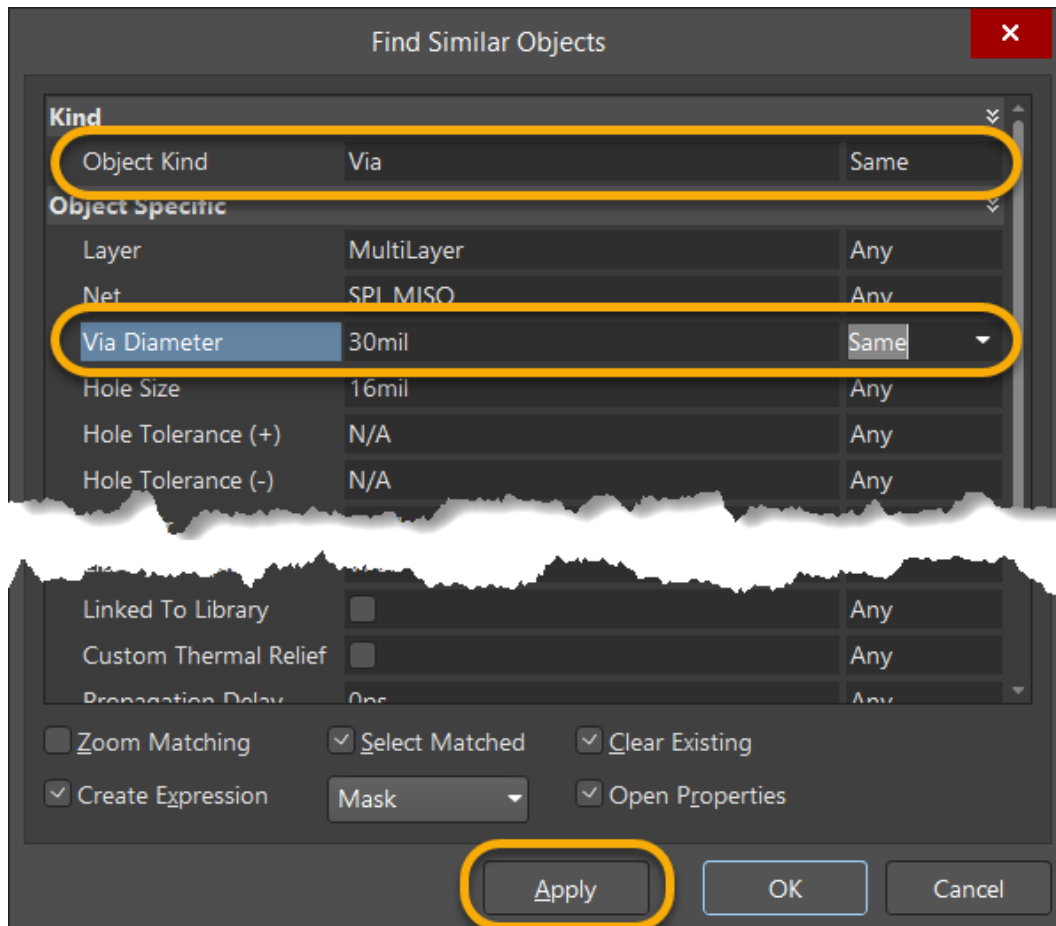

Figure 10. Find Similar Objects dialog to target specific Vias
33. Instead of all the vias, we only want to change the via diameter of the 30mil vias. In the *Find Similar Objects* dialog, set the *Via Diameter* to **Same** as shown in Figure 10 below.